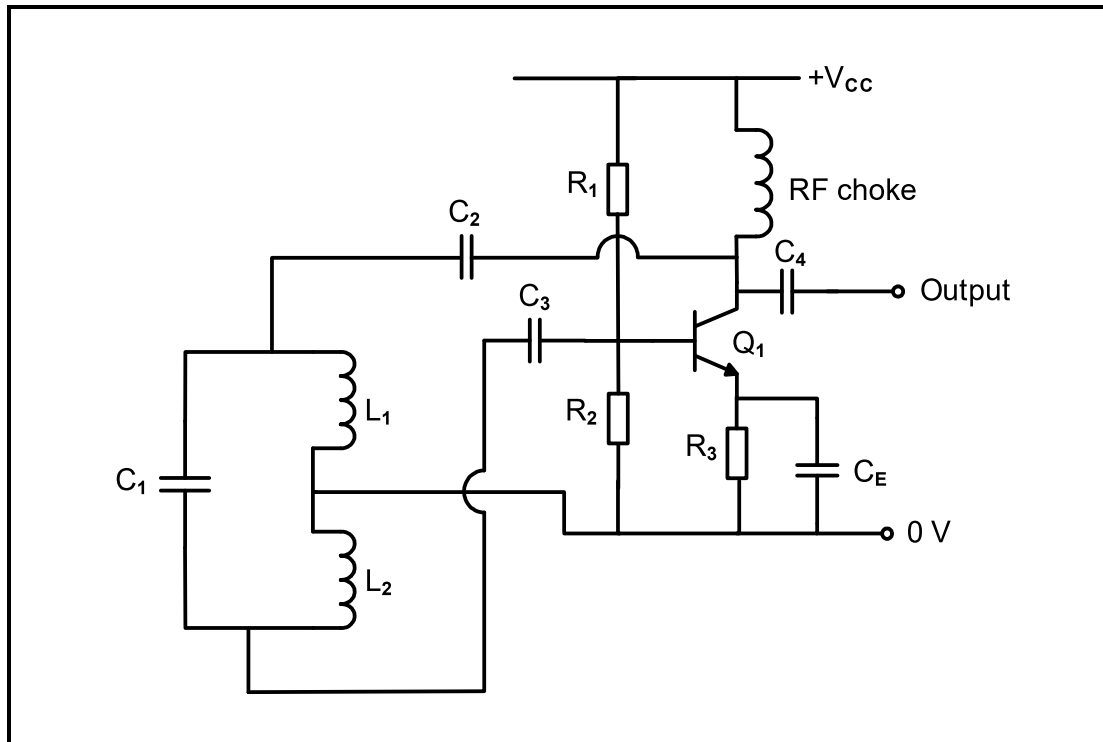

FIGURE 6.10: HARTLEY OSCILLATOR
6.10 Refer to FIGURE 6.10 below and answer the questions that follow.
- 6.10.1 Name ONE condition for the circuit in FIGURE 6.10 above to produce a sustained sinusoidal output waveform. (1)